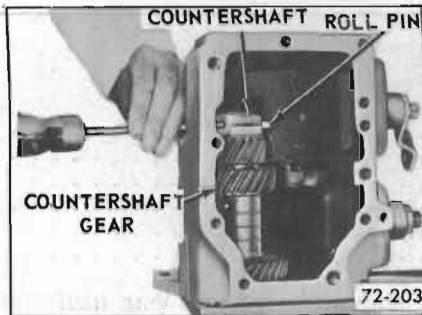

Figure 72-203—Removing Countershaft Retaining Pin
5. Through filler plug hole drive out countershaft to case retaining pin. See Figure 72-203.